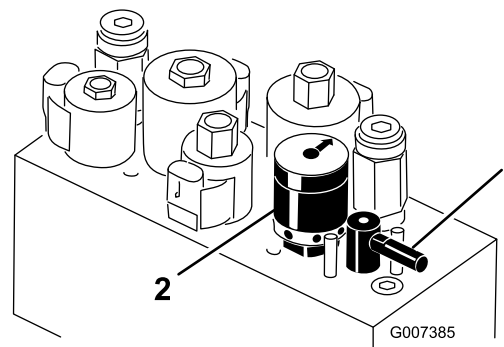

Figure 55
4. To set the reel speed, rotate the knob (Figure 55) until the indicator arrows are in line with the number designating desired setting.